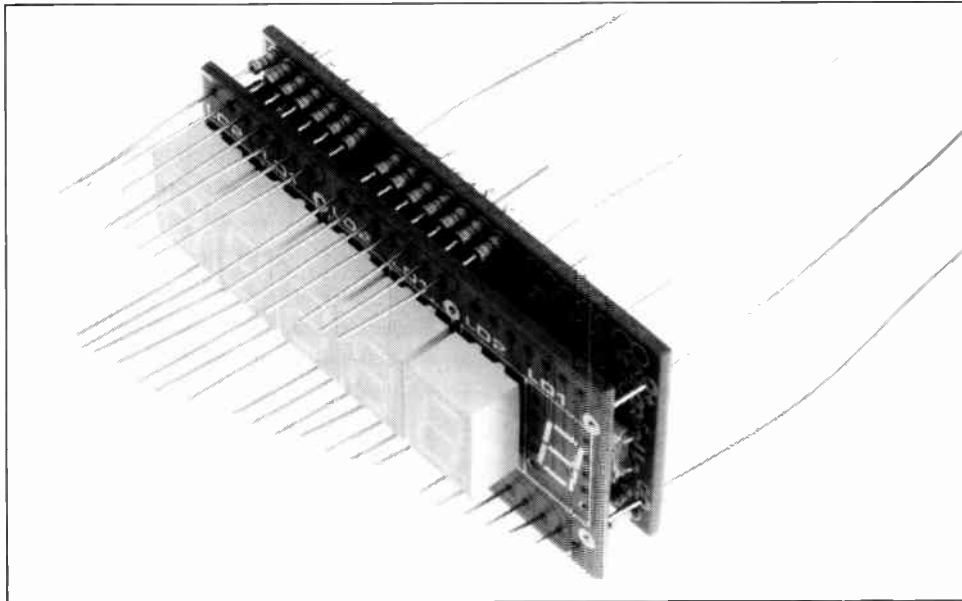

Fig. 10. In this way the display and the SMA boards can be joined easily.
4. On the SMA PCB, all parts are fitted as closely together as possible. If you use the enclosure mentioned in the components list, you must use ultra-miniature resistors (max. length 5 mm). When the display board and the SMA board are joined, these resistors are inserted simultaneously. This is easiest done when the wire ends are cut such that they form an oblique line from one side of the board to the other (see Fig. 10).